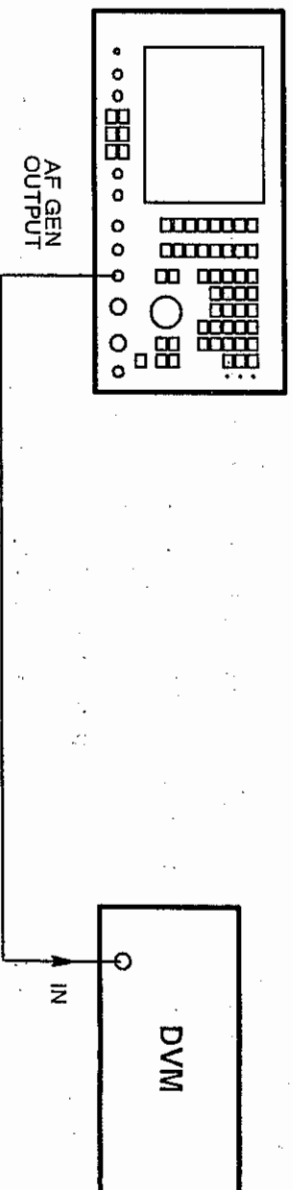

Fig. 6-12 Test equipment connections for AF generator output level accuracy
- (1) Connect the DVM to the AF GEN OUTPUT socket. See Fig. 6-12.
- (2) On the 2955A, set the MODE to AUDIO TEST. Ensure that GEN 1 is ON and GEN 2 is OFF. Press the TONES and AUDIO SETUP keys. Set the GEN 1 FREQ to 1 kHz, LEVEL to 1 V and SHAPE to SINE.
- (3) Check that the voltmeter reading is the same as the GEN FREQ setting  $\pm 5\%$   $\pm 1$  step.